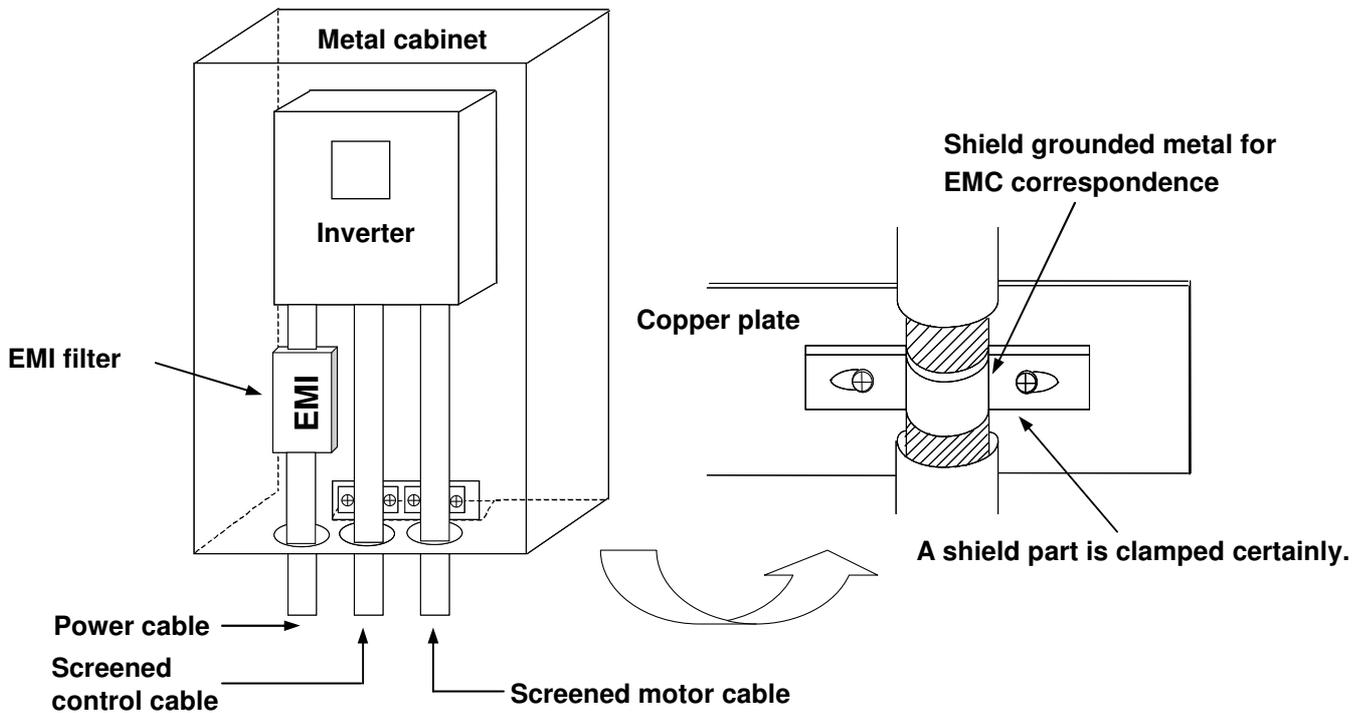

Fig.13-2
- (1) Install the drive unit in a metal cabinet and put the EMI filter on the power source cable as shown in Fig. 13-2.
- (2) The power source cable and motor cable outside the metal cabinet should be shielded and as shortest as possible. Electrically connect the shield to the earth terminal of the motor.
- (3) It is not necessary to use shielded cables for the control circuit wiring inside the metal cabinet. However, make the EMI filter power source cable and the motor cable as short as possible, and separate them as far from each other as possible.
- (4) In order to suppress the noise emission from the cables, earth the shield of the power source cable and motor cable to the metal cabinet with metal clamps.
- (5) Use the shielded cables for the drive control wiring and earth the shield to the metal cabinet with a metal clamp.